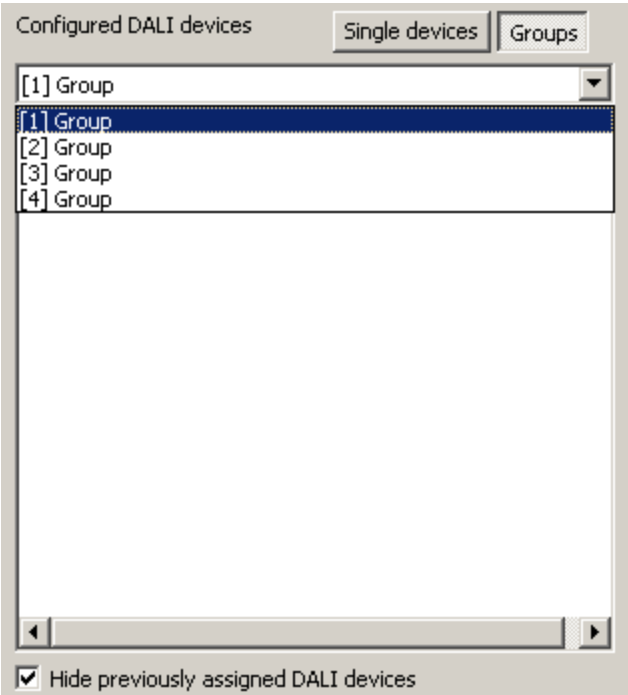

Figure 63: Selecting a group
- In the left-hand section of the DALI commissioning environment, select the required group to which the operating devices are to be added (Figure 63).